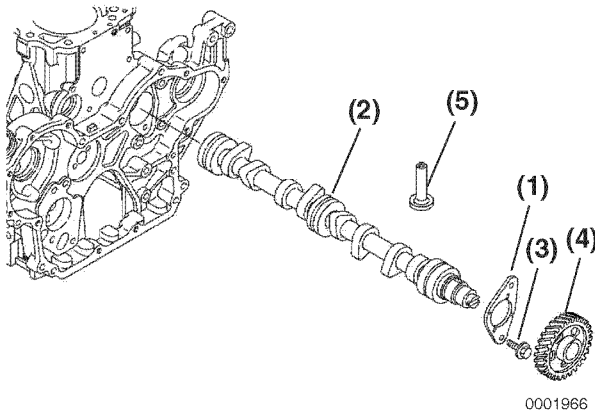

Figure 6-94
- Remove the two bolts (**Figure 6-94, (3)**) retaining the camshaft thrust plate (**Figure 6-94, (1)**).
- Rotate the engine in the engine stand so that gravity causes the tappets (**Figure 6-94, (5)**) to drop away from the camshaft lobes.
- Slowly pull the camshaft (**Figure 6-94, (2)**) assembly out of the engine being careful not to damage the front camshaft bushing.
- Remove the camshaft drive gear (**Figure 6-94, (4)**) only if the gear or camshaft require replacement. Use a knife-edge puller and a press to remove the gear. The gear is a shrink-fit and will need to be heated to 356° - 392°F (180° - 200°C) to remove.